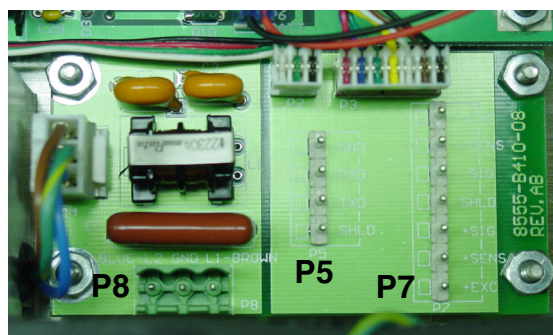
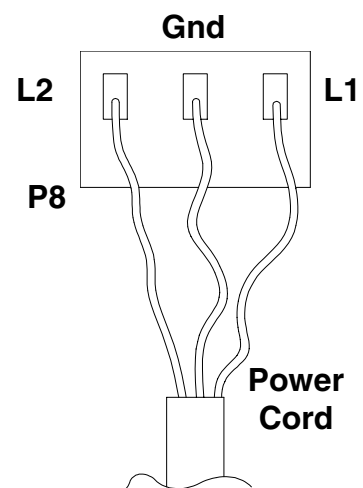

Figure No. 14
Figure No. 16
- Connect each wire to the terminal block for scale input (P7) referring to the labels on the circuit board for terminal connections. Refer to Figure No. 14 for terminal block location.
- Connect each wire to the Serial Data terminal block (P5) referring to the labels on the circuit board for terminal connections. Refer to Figure No. 14 for terminal block location.
- Connect each wire to the AC power terminal block (P8) referring to Figure No. 16, the color code wiring table below and the labels on the circuit board for terminal connections. Refer to Figure No. 14 for terminal block location.
2. Connect each wire to the power terminal block (P8) referring to Figure No. 17, for terminal connections. Refer to Figure No. 14 for terminal block locations.